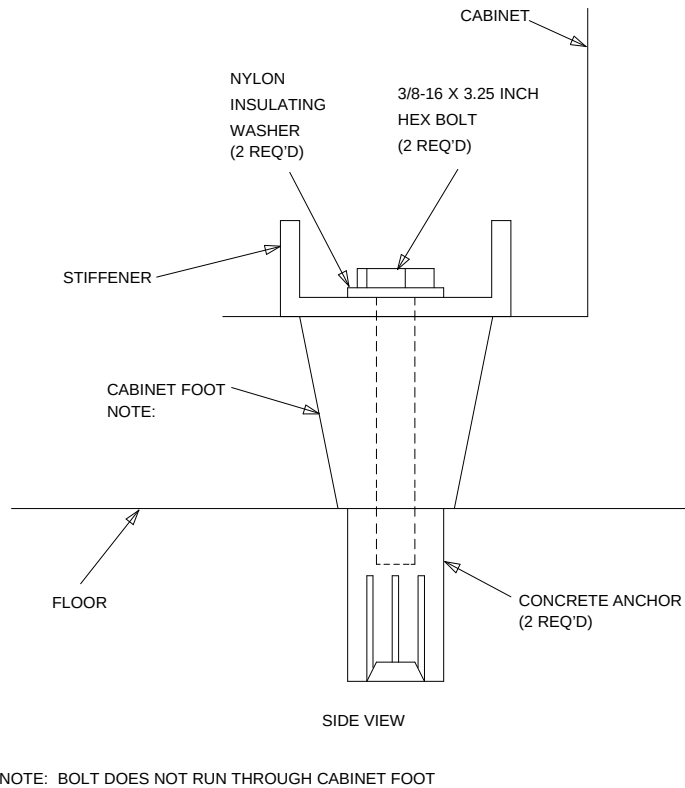

Figure 3-4. Cabinet Earthquake Mounting — Concrete Floor
12. Fasten the cabinet to the floor (Figure 3-4).